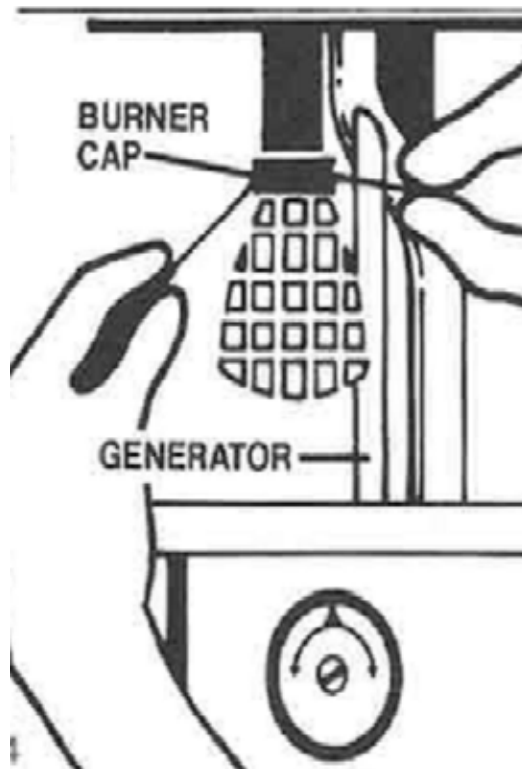

Figure 11 Replacing a Mantle
7. Tie mantle around the grooves in the burner cap, with the flat side of the mantle facing the generator (as per Figure 11).